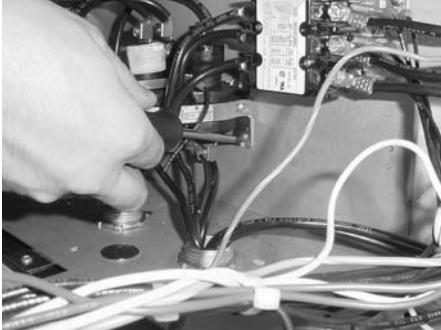

Figure 2-55
2. Remove the screws securing the contactor to the shroud, and remove contactor. Figure 2-55.